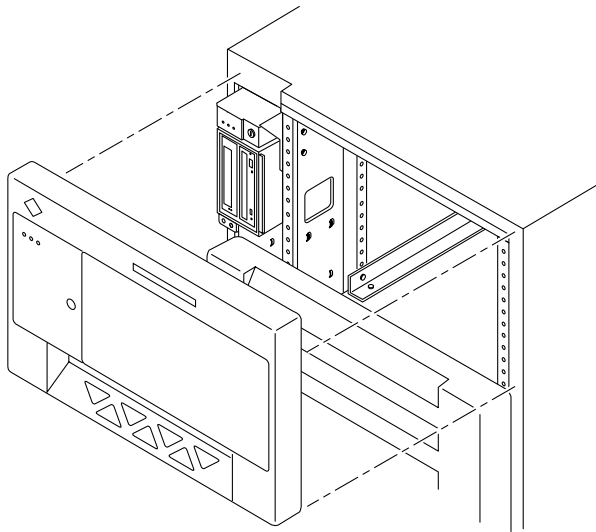

FIGURE E-5 Removing the Front Bezel
3. Grasp the front bezel on both sides at the top and pull it out far enough to disengage the ball studs (FIGURE E-5).
Tap or press both sides of the bezel into place (FIGURE E-5).